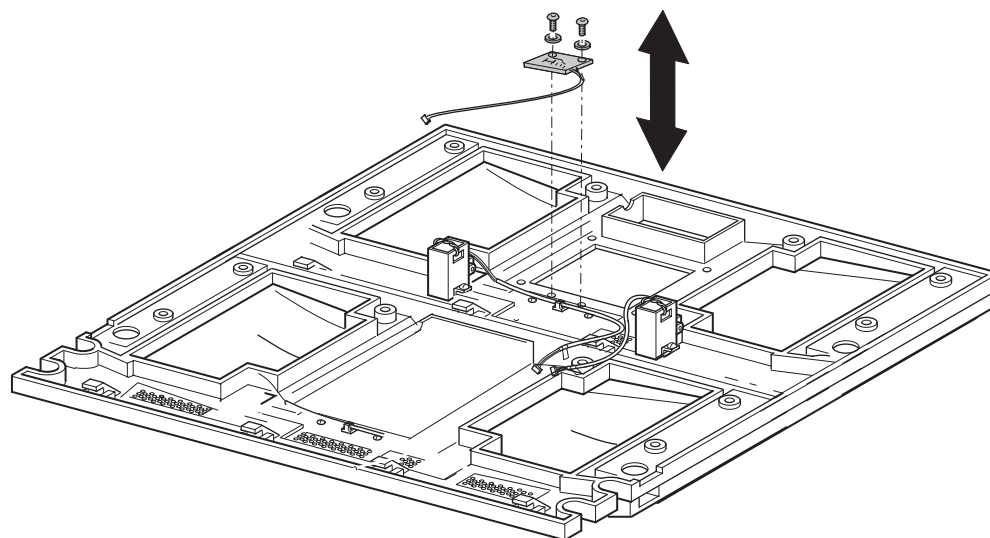

Figure 3–11: LED removal and replacement
2. Replace the two mounting screws. (See Figure 3–11).